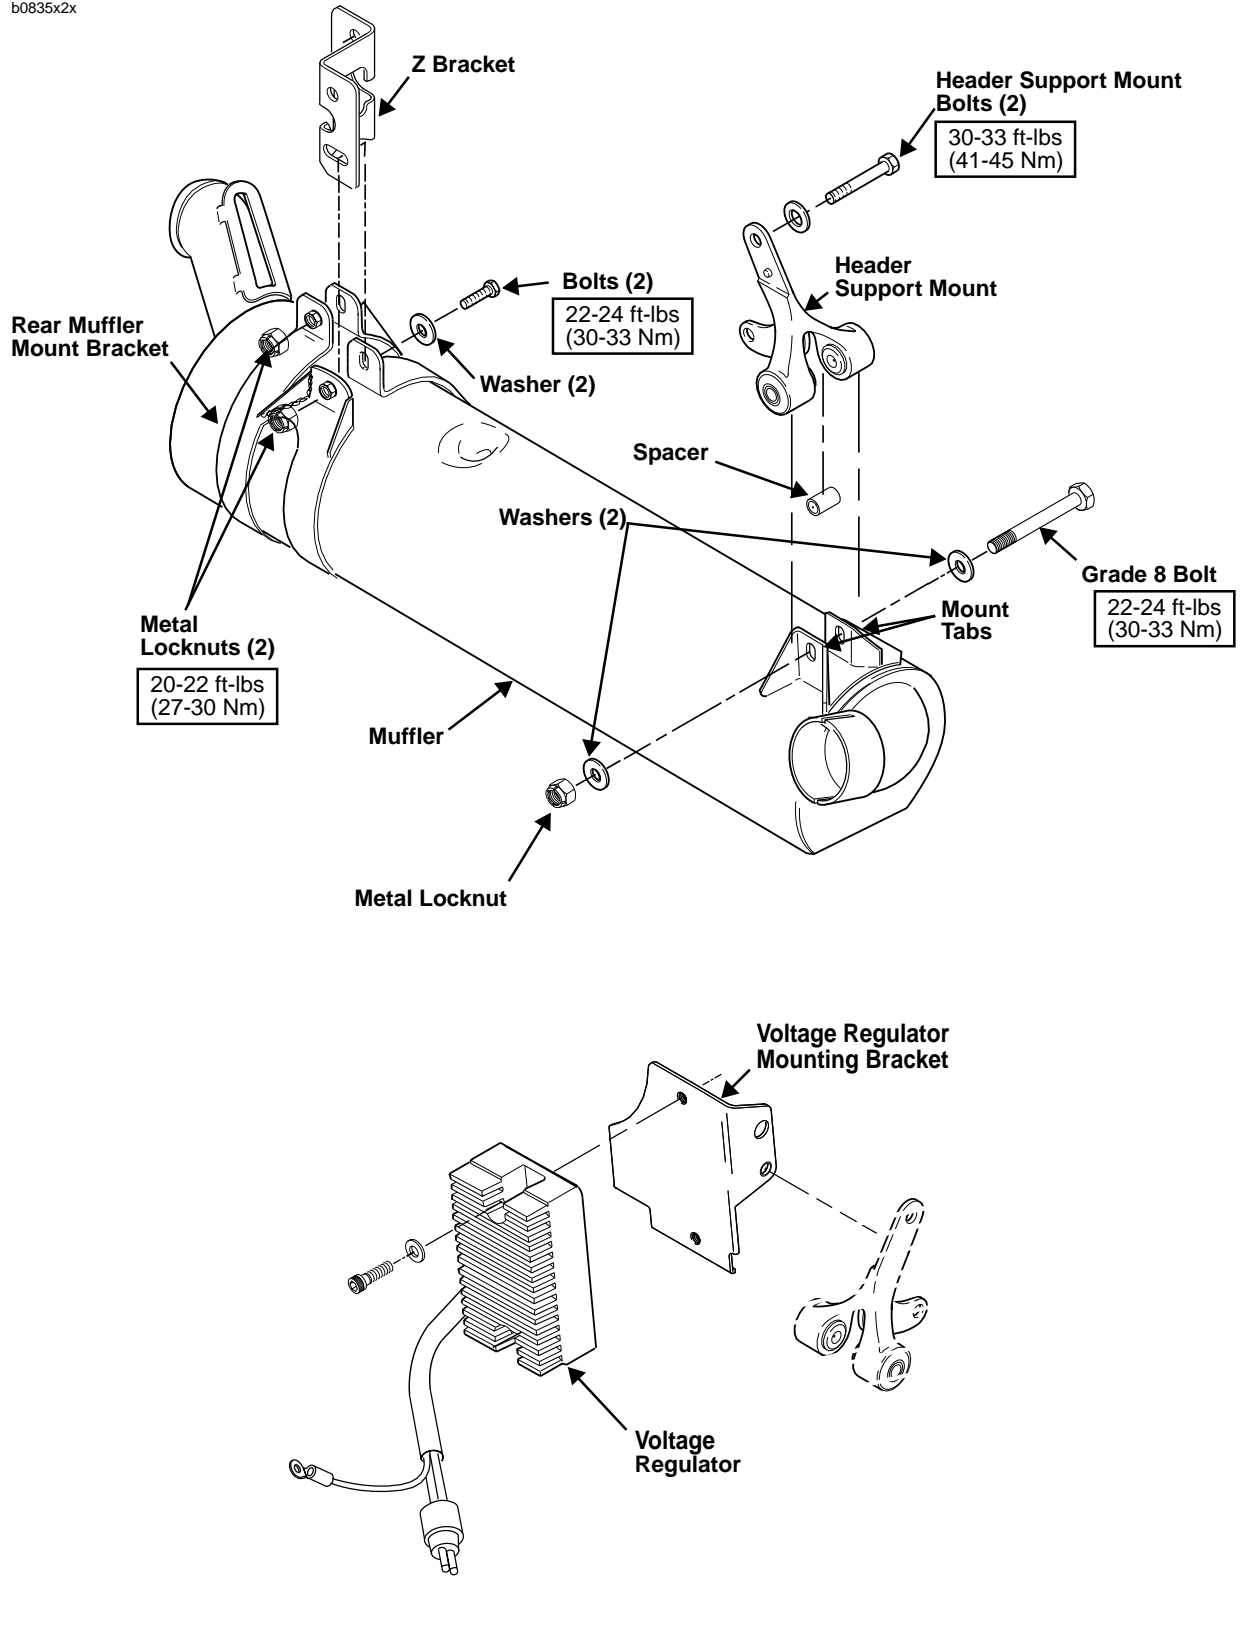

Figure 2-95. Exhaust System
2. See Figure 2-95. Loosen the four exhaust header nuts (20) using SNAP-ON SWIVEL SOCKET (Part No. PFSX916).
2. See Figure 2-95. If removed, install Z-bracket.